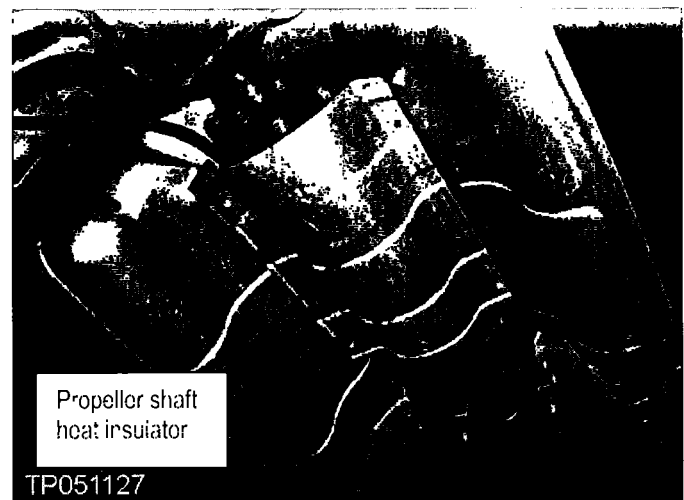

Figure 50
16. Remove four nuts and remove the propeller shaft heat insulator (see Figure 50).